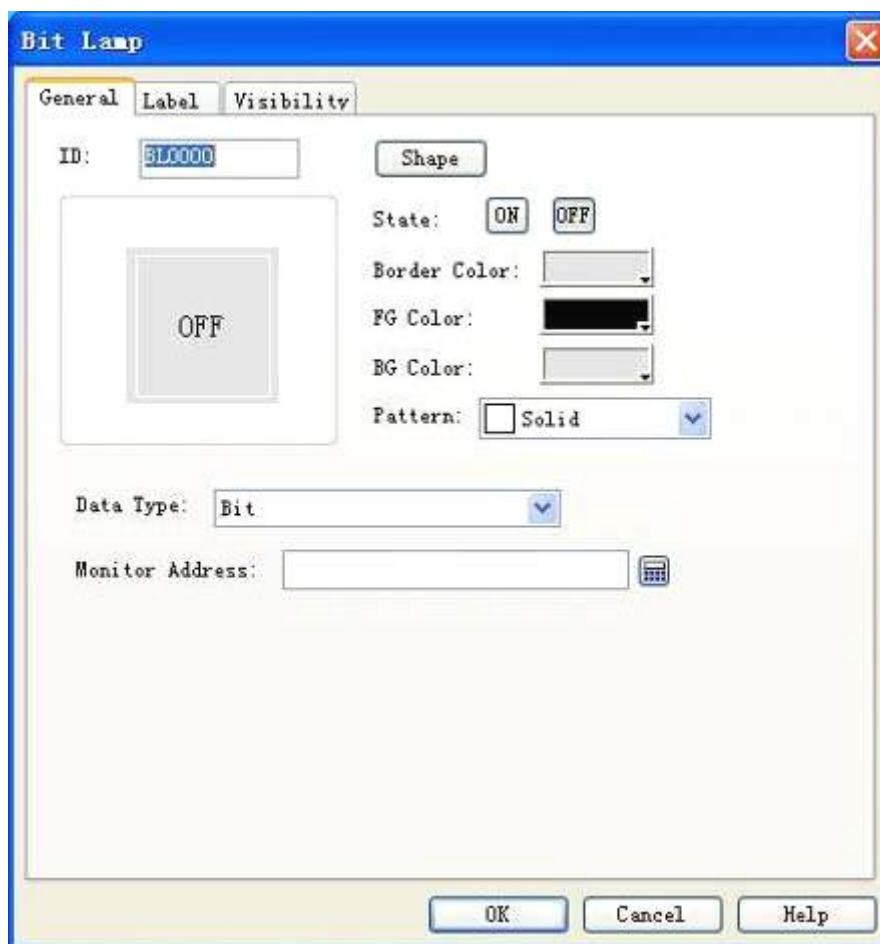

Figure 4-65: Bit Lamp dialog
1. Choose the Bit Lamp button icon  in the tool bar, and then a dialog as shown in Figure 4-65 will appear.